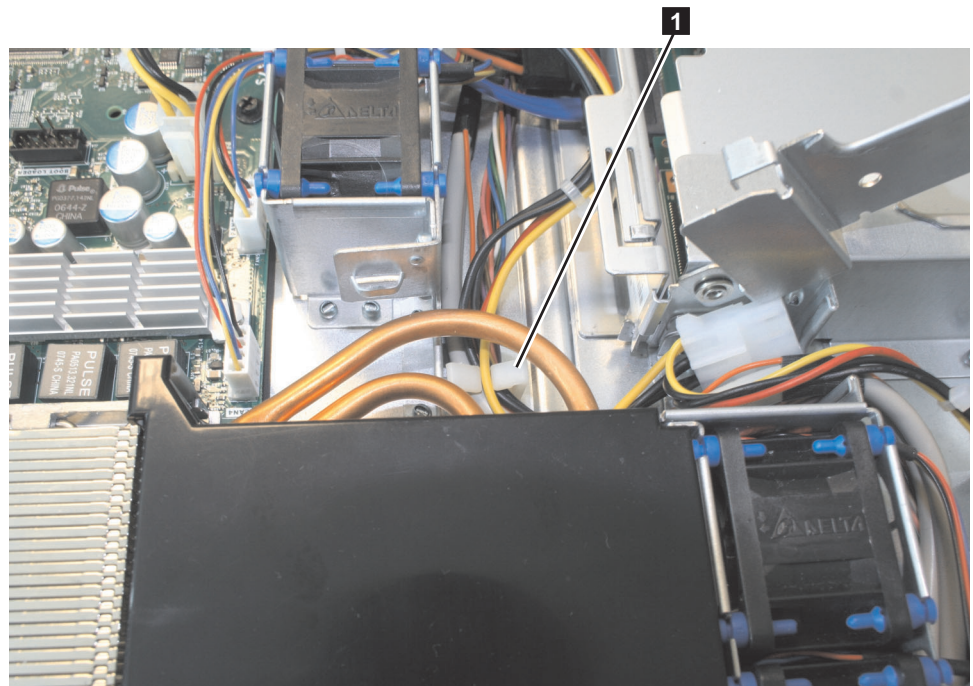

Figure 161. The retention clip for the SAN Volume Controller 2145-8A4 power-supply cables
6. Route the power-supply cable with the P5 connector to the CD/DVD interface card and secure it under the retention-clip **1**, as shown in Figure 161 on page 177